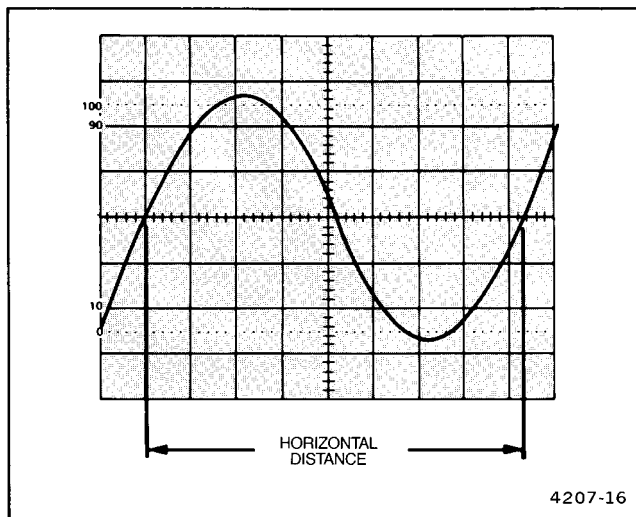

Figure 3-5. Measuring time duration.
4. Position the display to place the time-measurement points on the center horizontal graticule line (see Figure 3-5).
EXAMPLE. In Figure 3-5, the distance between the time measurement points is 8.3 divisions, and the SEC/DIV setting is 2 ms per division. Horizontal MODE is set to X1.
EXAMPLE. The signal in Figure 3-5 has a period (T) of 16.6 ms. Calculating frequency (f):